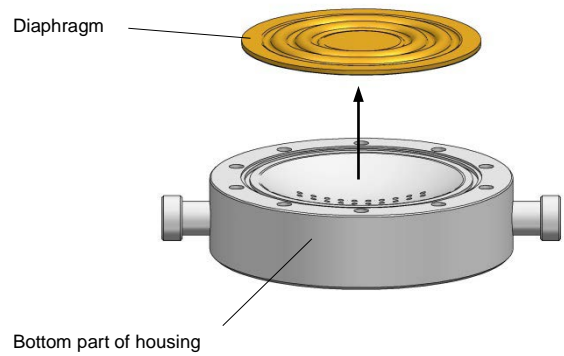

Fig. 28 Changing the diaphragm (plastic)
- Remove the diaphragm (see Fig. 28).